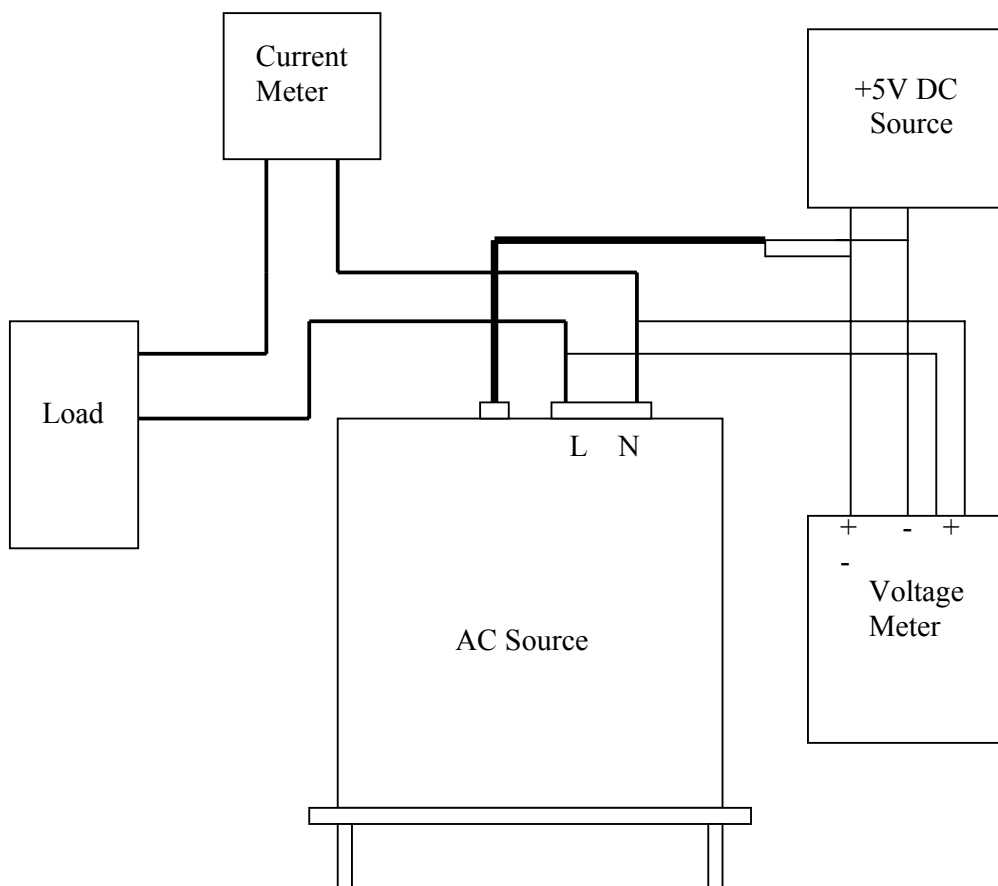

Figure 4-1
The AC Source has a built-in, simple way to calibrate the 3-phase output and measurement accuracy without opening the cover. Users can do this for each phase by following the procedures step by step. A voltage meter, current meter, suitable load and +5V DC Source are needed during calibration. Please refer to Figure 4-1 for the connections of the instruments. There are three items that need calibrating. However, it is not necessary to calibrate all of them at once. Users can choose one item as needed.
1. The Vdc offset may be positive or negative. The positive of DVM connects to the line of AC Source output, and the negative of DVM connects to the Neutral of AC Source output. See Figure 4-1.